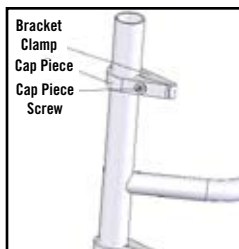

Figure 1
**Step 2:** Hold the adjustable bracket clamps and cap pieces in place around the chair back posts and secure by tightening cap piece screw, as shown in Figure 1.